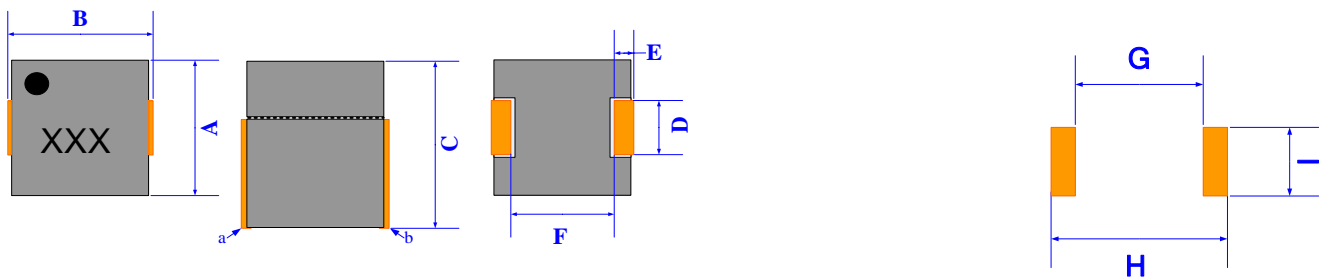

Fig.3-1
Dimensions and recommended PCB pattern for reflow soldering, please refer to Fig.3-1 and Table 3-1.
- ※4: Normal DCR is measured from point **a** to point **b**. (refer to Fig. 3-1)